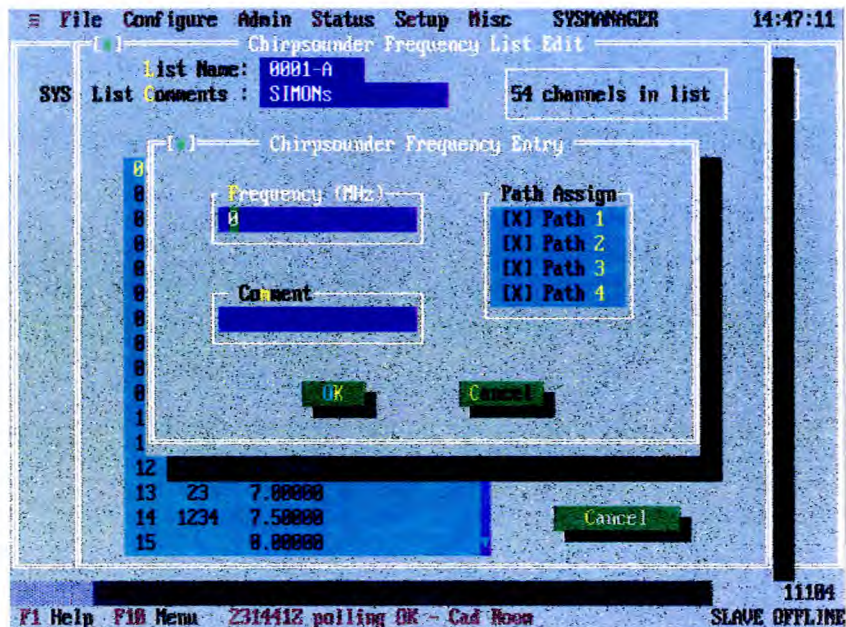

Fig 36
9.7 EDIT : This selection obtains the screen Fig 36.